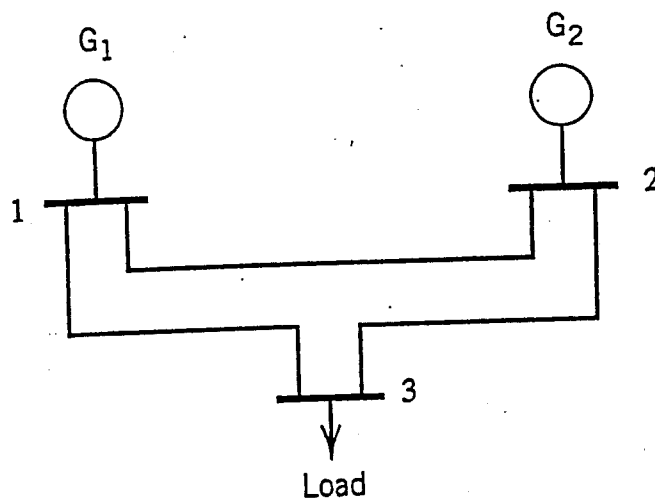

Figure 3.1
3. For the three-bus system shown in Figure 3.1, generator G1 is chosen as swing generator. Bus 2 is a generator bus and bus 3 is a load bus. The line reactances are given as:  $X_{12} = 0.2$  p.u.,  $X_{13} = 0.25$  p.u.,  $X_{23} = 0.4$  p.u.